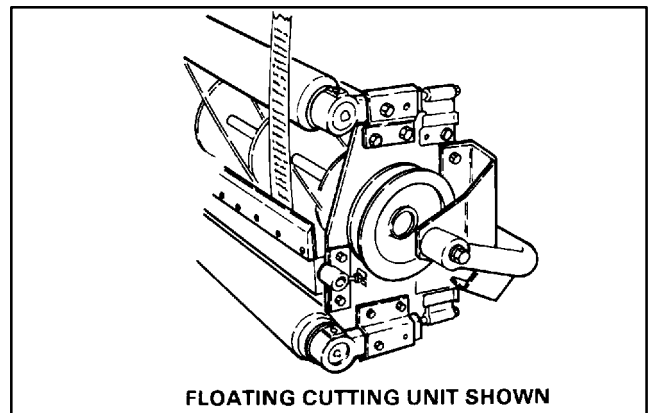

Figure 19
1. Make sure reel contact is removed by turning bedknife adjustment knob counterclockwise (Fig. 18). Tip cutting unit to gain access to reel and bedknife (Fig. 19).